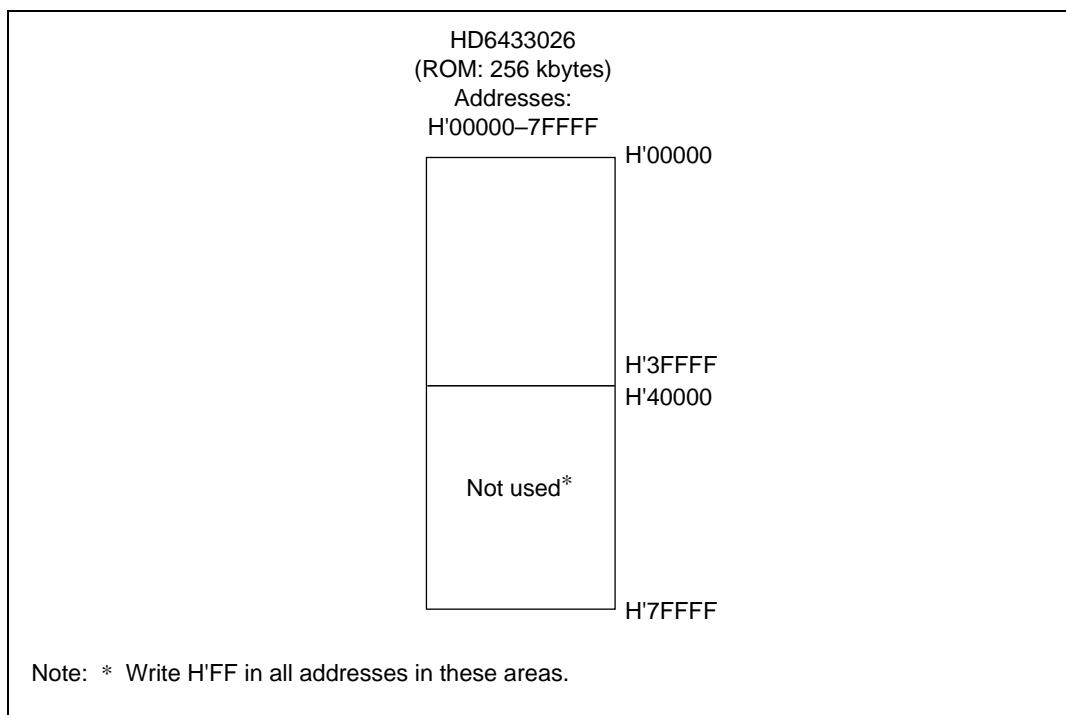

Figure 17.20 Mask ROM Addresses and Data
2. Fill all unused addresses with H'FF as shown in figure 17.20 to make the ROM data size 512-kbytes for the H8/3026 mask ROM version. This applies to ordering by means of an EPROM and by means of data transmission.